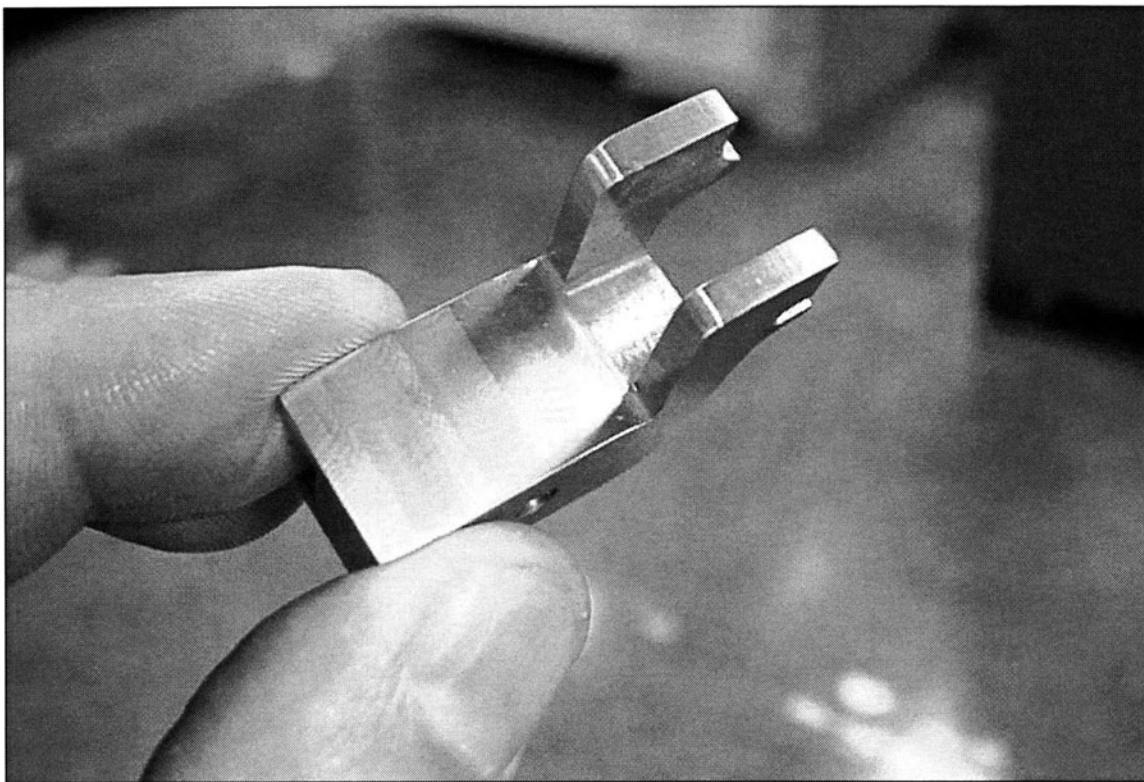

FIGURE 4-1 Blending surfaces can be challenging. Precisely blended surfaces make parts look better.
- Are "blended" cuts mismatched? (See Fig. 4-1)